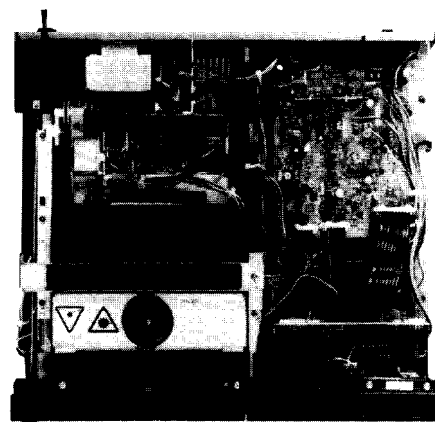

Figure 10
2. Mechanism assembly comes out (open) by pulling mechanism assembly gear in direction (D) shown by arrow while pressing the gear with your finger. (See Figure 10)